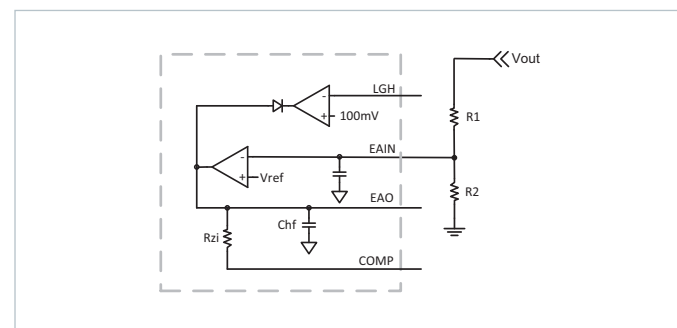

Figure 51 — External resistor divider network
The PI354x-00 family of Buck Regulators utilizes an internal 1 V reference. The output voltage setting is accomplished using external resistors as shown in Figure 51. Select R2 to be at or around 1 k for best noise immunity. Use equations (1) and (2) to determine the proper value based on the desired output voltage.